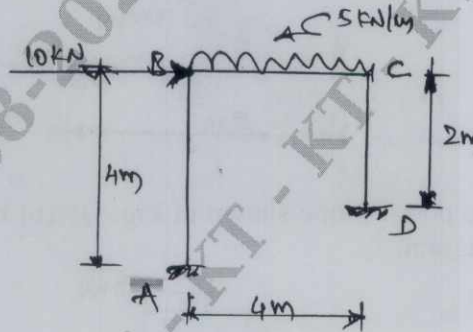

Fig. Q4
- 4 Analyze the portal frame by moment distribution method. Draw bending moment diagram. Refer Fig. Q4. Take EI constant. (20 Marks)